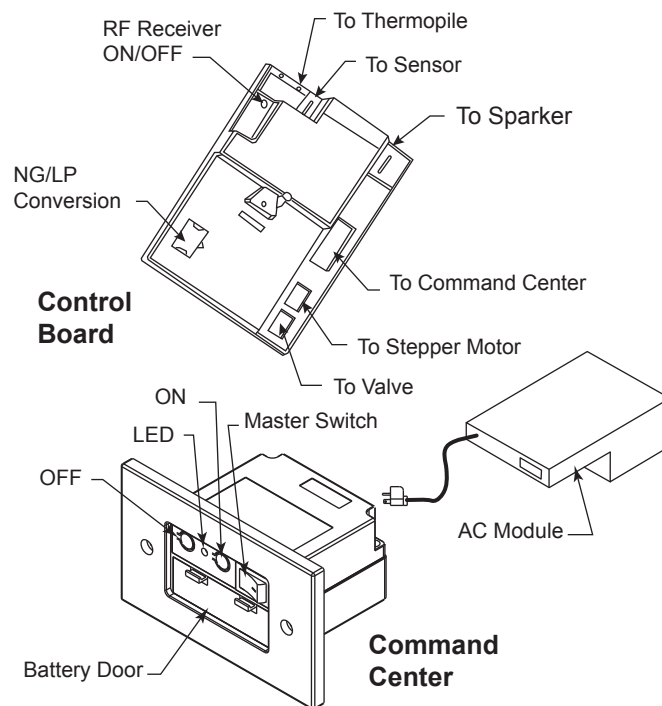

Figure 46 -
1. The RF receiver button located on the Control Board must be in the on position before the learn function can begin. Use paper clip to depress button. One beep for RF receiver ON or two beeps for RF receiver OFF will be given as confirmation. Refer to *Figure 46* for location.